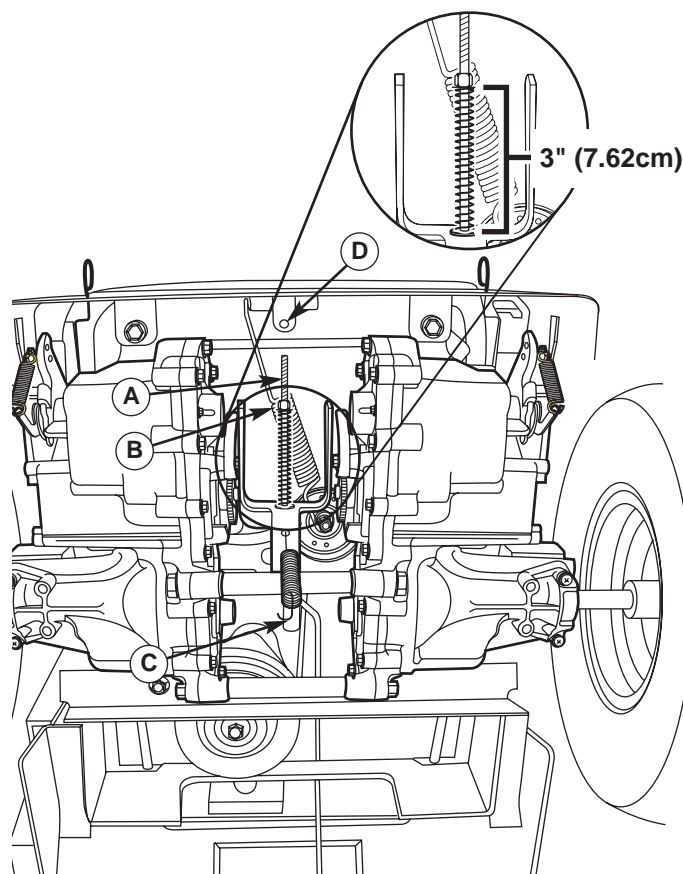

Figure 34. Brake Adjustment
2. Locate the brake rod (A, Figure 34) and adjustment nut (B).
4. Measure the parking brake spring. Its compressed length, with the ground speed levers in their PARK positions should be 3" (7.62cm). Adjust the spring length by turning the adjustment nut (B), if necessary.